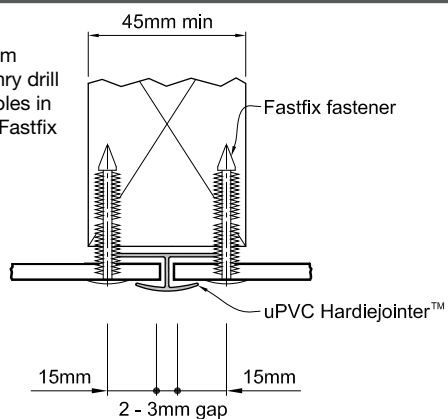

Figure 26: Two-way uPVC jointer
- Refer to Figure 26 for two-way uPVC jointer
- Refer to Figure 26 for Two-way uPVC Jointer